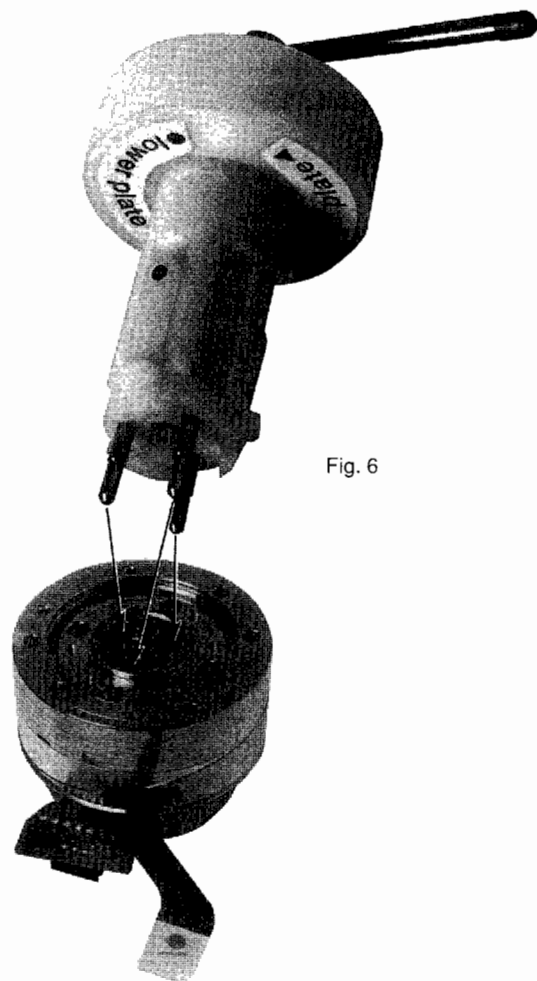

Fig. 6
- Prepare the tool for the lower clamping element. Position the tool on the head disc and make sure that all 3 pins are snapped in the the lower clamping element. Loosen the clamping element by turning the lever 90 degrees and remove the head disc plus the tool from the scanner spindle. (Fig.6)